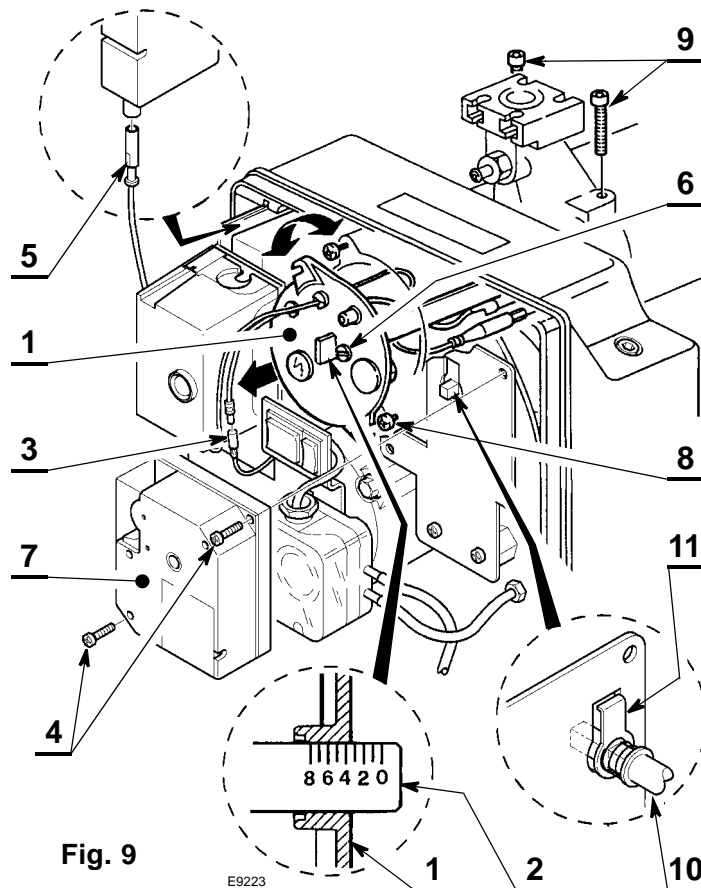

Fig. 9
### 4.2 COMBUSTION HEAD SETTING, (see fig. 9)
The combustion head leaves the factory set for the maximum output (set point 8). Setting depends on the output of the burner. Rotate the setting screw (6) in a clockwise or anticlockwise direction until set point marked on the regulating rod (2) is level with the outside plane of the head assembly (1). Figure 9 shows the head regulating rod set on set point 3.